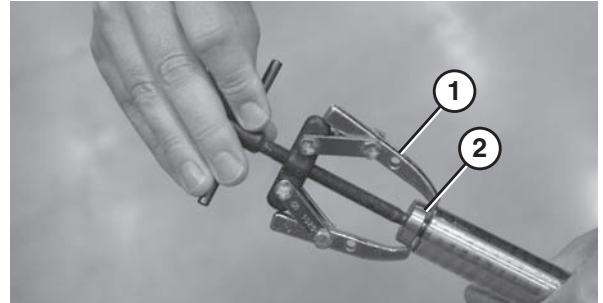

Figure 52
2. Using a bearing removal tool (**Figure 52, item 1**) remove the bearing (**Figure 52, item 2**).